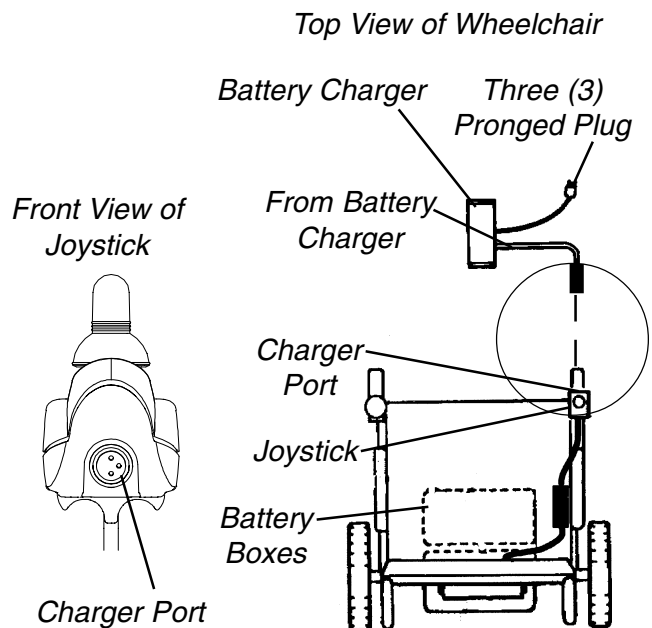

FIGURE 8 - CHARGING BATTERIES
**CHARGING BATTERIES (FIGURE 8)**
**Wheelchairs Equipped With MCC-Mark IV Joystick (Detail "A" of FIGURE 8)**
**Wheelchairs Equipped With Mark IV RII Joystick (Detail "B" of FIGURE 8)**